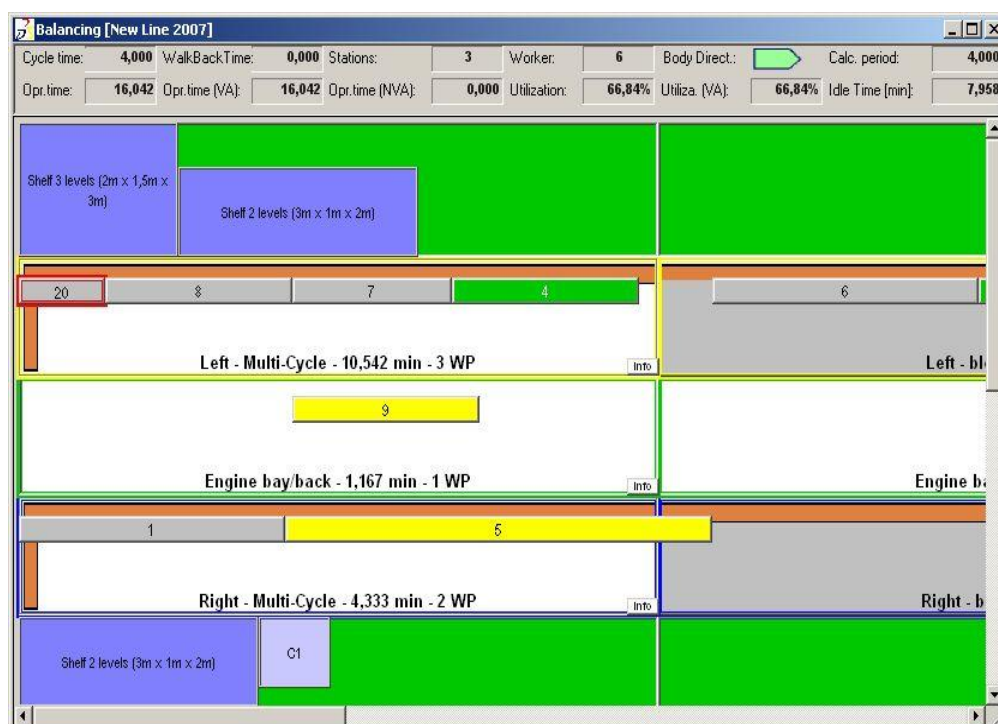

Figure 17: Example – Balancing
- **Balancing View:** Processes that have been assigned to the Balancinglist, are immediately created with stations and workplaces and are then shown in the Balancing view. Please refer to the Figure 17.